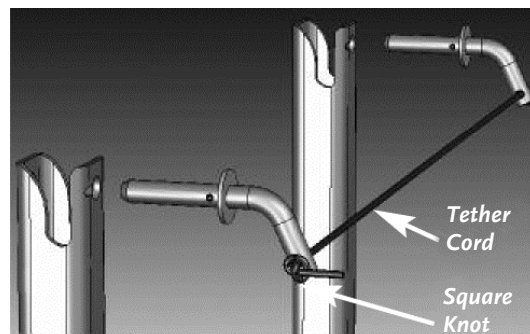

Figure 22
22. Attach tether cord to pins by feeding end of cord through hole in pin and tying a square knot (**Figure 22**).